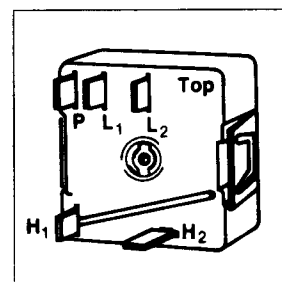

Figure 33
6. Check each circuit of switch (see Figure 33) by :